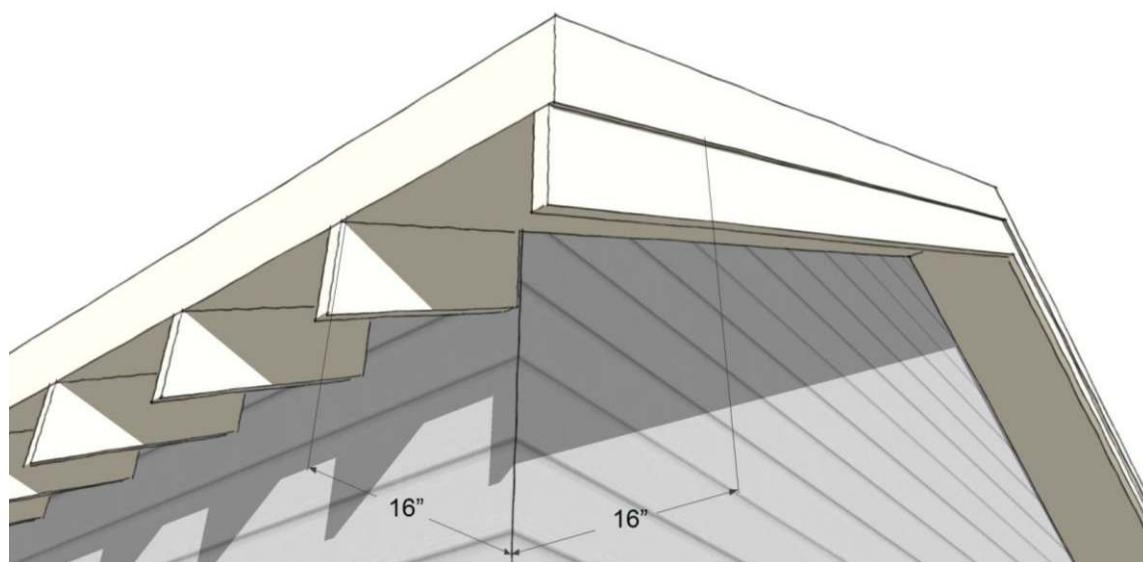

Figure 10c: Eave overhangs
- c. Because the overhang is a primary means of protecting the wall systems from rain, roofs shall have eaves and rakes extending at least 16 inches on all façades. For larger homes, overhangs should be 24". See Figure 10c.